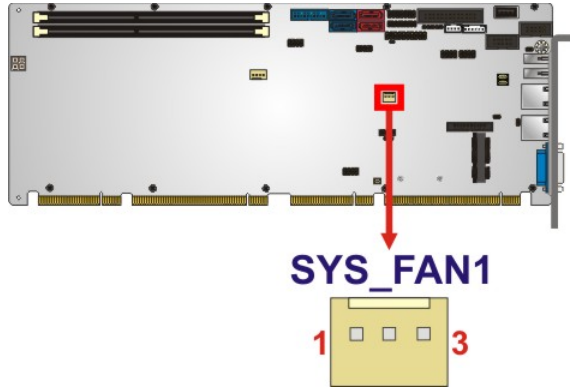

Figure 3-10: System Fan Connector Location
- CN Location:** See Figure 3-10